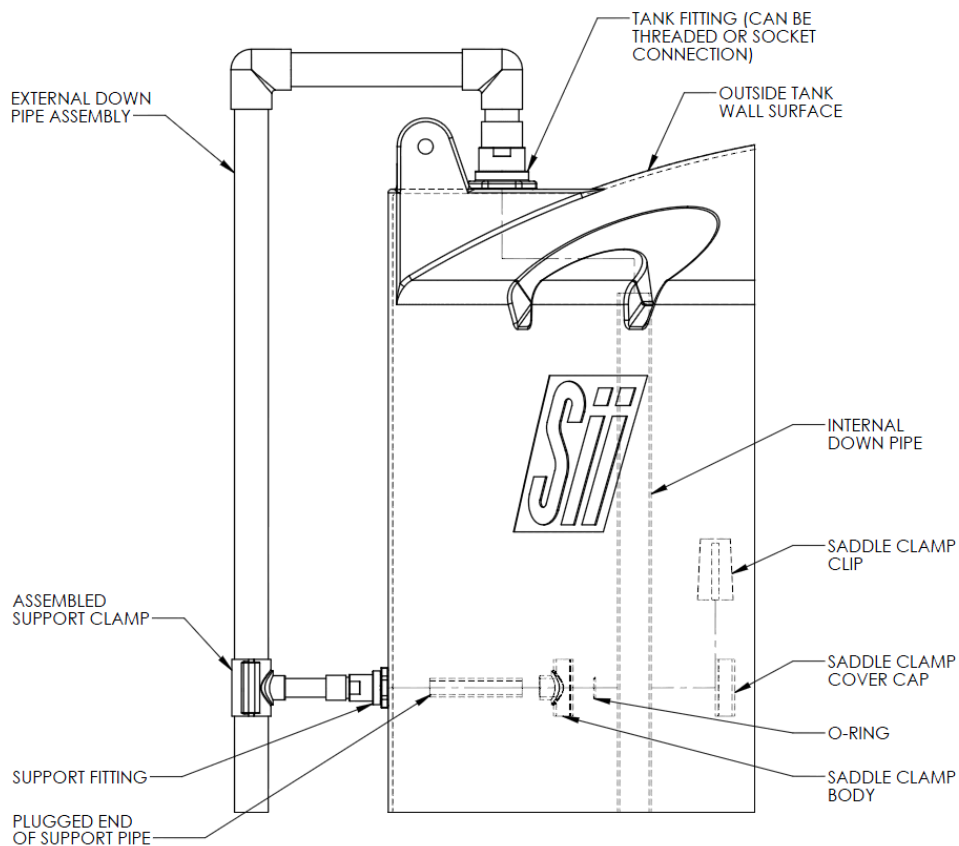

Figure 7.2
7.3.2 Assemble the piping loosely using Figure 7.2, the guidelines detailed below, and the customer approved tank drawing to ensure all parts are present and cut to meet the customer's requirements. As soon as all parts have been checked, assemble the parts with solvent weld cement and/or threaded connections as shown in Figure 7.2.
7.3.3 Assemble and install support structures as shown in Figure 7.2 (without the saddle clamp covercaps and clips). Make sure the support clamp orientation is correct (with the small width of the wedge toward the